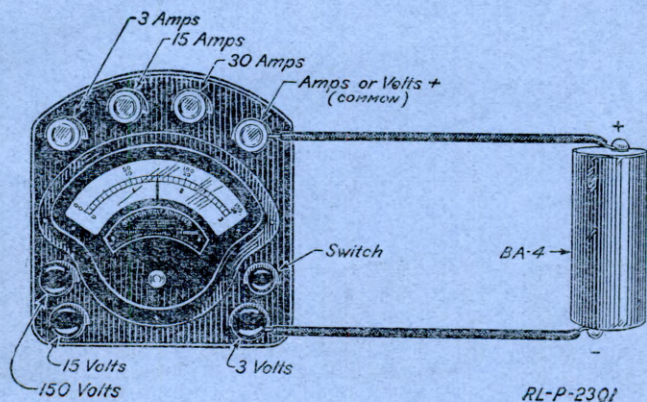

Fig. 2.—Method of connecting type BA-4 cell to a voltammeter.
1. Connect the wire leading from the carbon rod or positive pole of the BA-4 cell to the terminal marked "Amps or Volts +" on the voltammeter. Connect the wire leading from the bottom of the zinc case or negative terminal of the cell to the terminal marked "3 Volts" on the voltammeter. (See Fig. 2.) Press the small button switch on the voltammeter and watch the indicating needle.
- (8) *In which direction does the indicating needle turn?*
- (9) *Where does the needle come to rest?*
- (10) *What is the voltage of the cell as indicated by the voltammeter?*